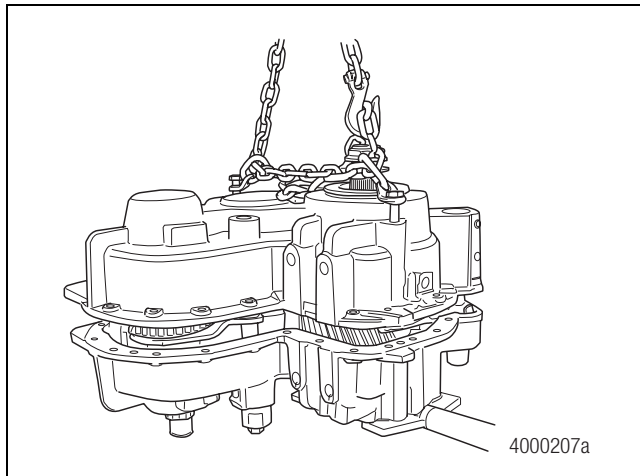

Figure 6.16
14. Use a suitable lifting device to install the rear cover and output shaft as an assembly over the front case. Figure 6.16. Guide the cover over the shift fork and push rod as the cover is being set into place over the case.